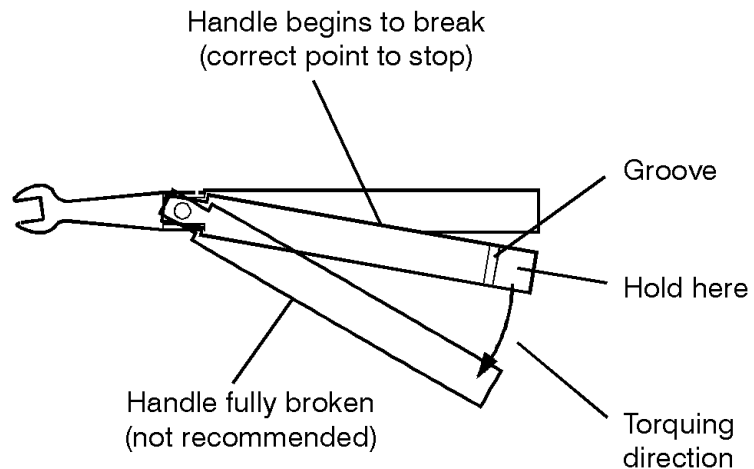

Figure 3-11 *Using the Torque Wrench*
5. Tighten the connection just to the torque wrench “break” point (see Figure 3-11). Do *not* tighten the connection further.